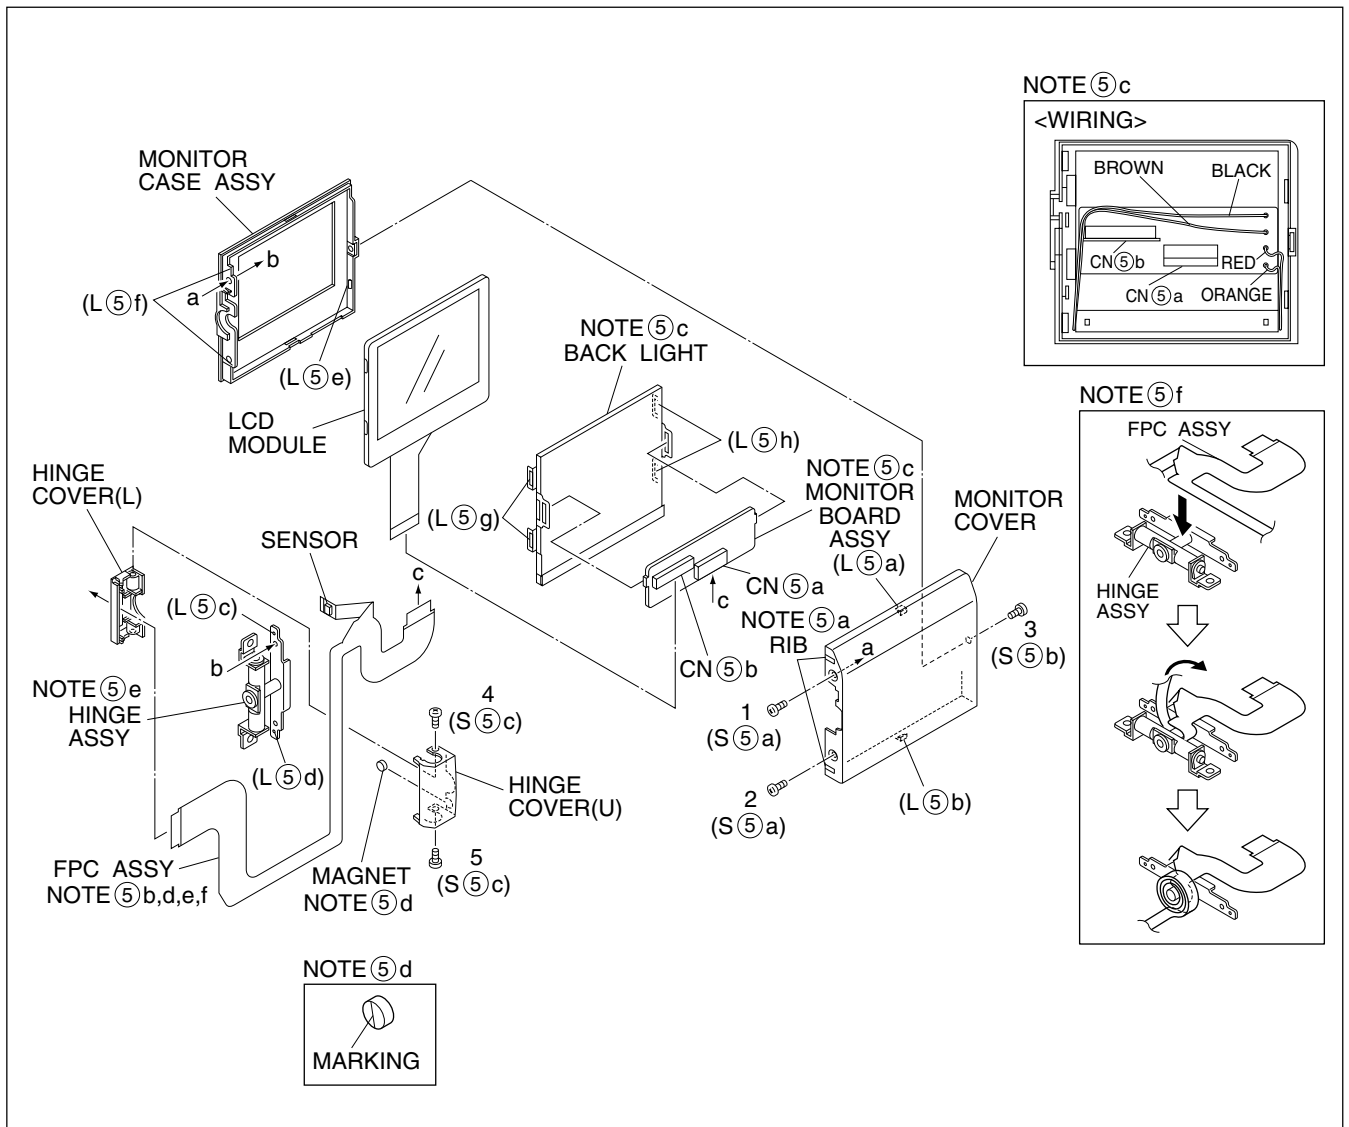

Fig. 1-4-1
NOTE ⑤: Refer to Fig. 1-4-1 for the disassembly method.
Reference drawing	Fig. 1-4-1